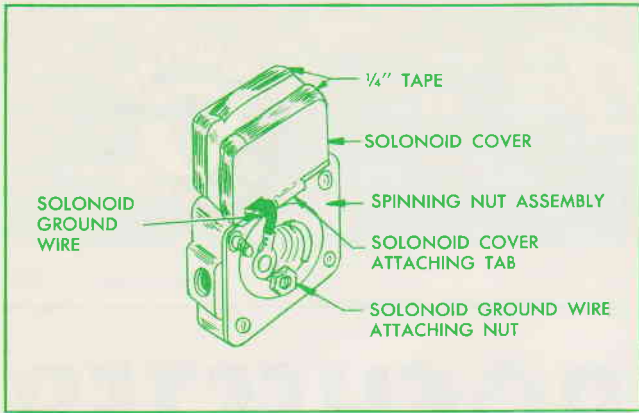

Fig. 1 Taping of Power Seat Solenoid Cover
We have received several field reports concerning loose solenoid covers on early production bodies equipped with power operated six-way seat assemblies. This condition can be corrected by first disconnecting the solenoid to spinning nut ground wire, straightening the solenoid cover attaching tabs; then wrapping three (3) or four (4) layers of 1/4" wide tape around the front and rear edge of the solenoid cover as shown in Fig. 1.